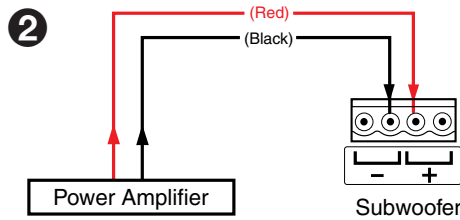

Figure 3. Subwoofer Wiring Methods
- Connect four or two speaker wires to the captive screw connector by one of two methods, as shown in the following two examples (see figure 3).